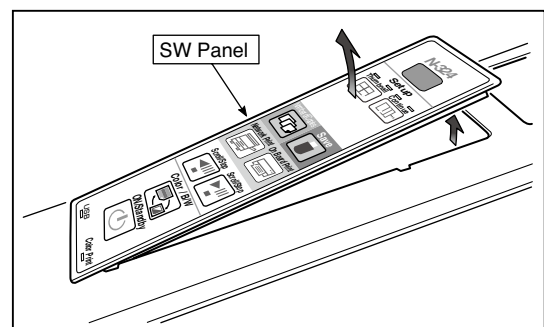

Fig.16
1.Disconnect the CIS Cable (FFC), shown in the figure 16, from a connector.